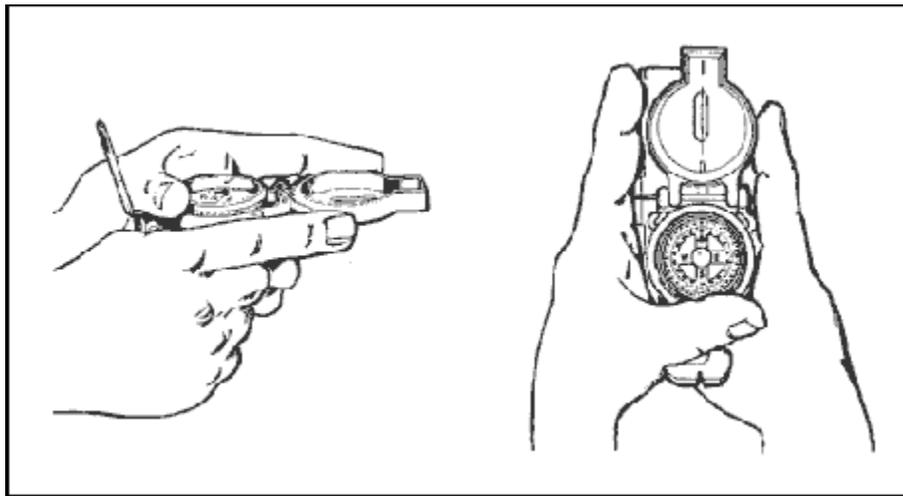

Figure 2. Centerhold technique.
a. **Using the Centerhold Technique.** First, open the compass to its fullest so that the cover forms a straightedge with the base. Move the lens (rear sight) to the rearmost position, allowing the dial to float freely. Next, place your thumb through the thumb loop, form a steady base with your third and fourth fingers, and extend your index finger along the side of the compass. Place the thumb of the other hand between the lens (rear sight) and the bezel ring; extend the index finger along the remaining side of the compass, and the remaining fingers around the fingers of the other hand. Pull your elbows firmly into your sides; this will place the compass between your chin and your belt. To measure an azimuth, simply turn your entire body toward the object, pointing the compass cover directly at the object. Once you are pointing at the object, look down and read the azimuth from beneath the fixed black index line (Figure 2). This preferred method offers the following advantages over the sighting technique:
- (1) It is faster and easier to use.
- (2) It can be used under all conditions of visibility.
- (3) It can be used when navigating over any type of terrain.
- (4) It can be used without removing eyeglasses.